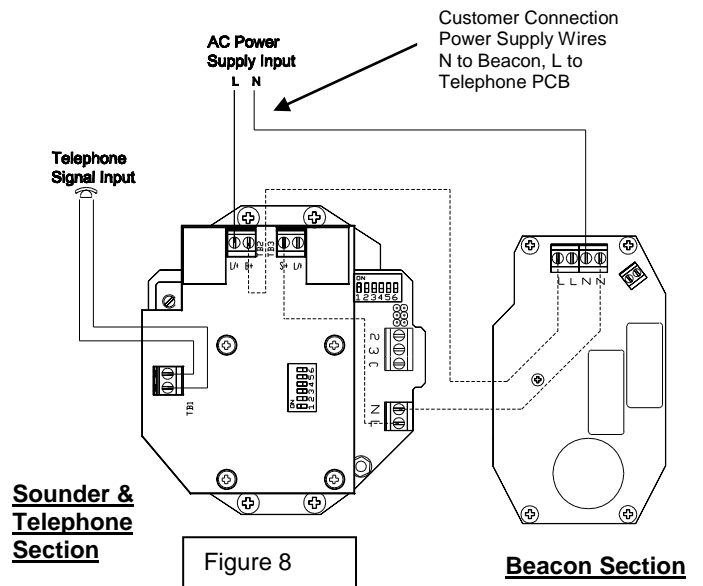

Figure 8
The power input (L) AC units or (+ve) DC units is connected to the telephone board (L/+) terminal (see figures 8 & 9)
The power input (N) AC units or (-ve) DC units is connected to the beacon board (N) AC or (-ve) DC units terminal (see figures 8 & 9)